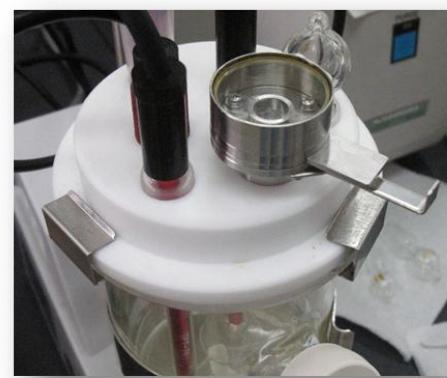

Fig.3.2 Setting of ultra-micro solid sampler
- (2) Set the ultra-micro solid sampler on the lid of cell as shown in Fig.3.2.
- (3) Start blanking to attain stable background.
- (4) Take sample into the capsule and accurately weigh it.